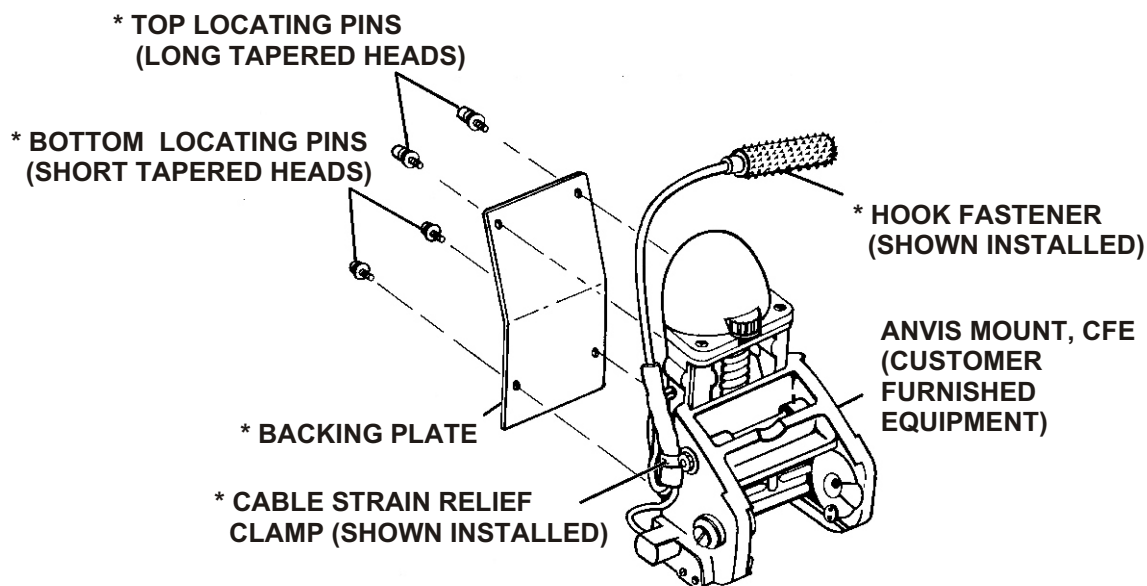

Figure 2-14. ANVIS Modification Kit (*P/N 90A7946-6)
Before the ANVIS NVG can be installed, the ANVIS mount must be modified and a cable clip attached. The ANVIS modification kit contains four screws for the rear of the mount, a cable clip and attaching screw, and pile fastener for ANVIS battery pack attachment to the helmet. Referring to Figure 2-14, perform the modification as follows :
5. Remove the backing from the hook fastener. Wrap the hook fastener around the cable connector until the ends meet as shown in Figure 2-14.